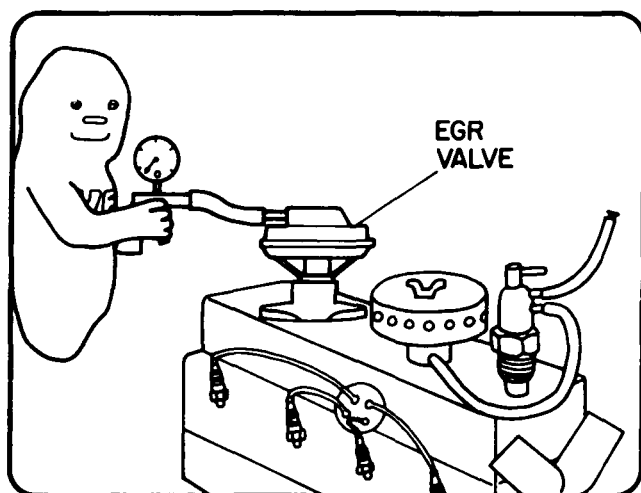

Figure 8-14
1. Figure 8-14 shows an EGR valve being tested. List the basic steps necessary to perform this test.